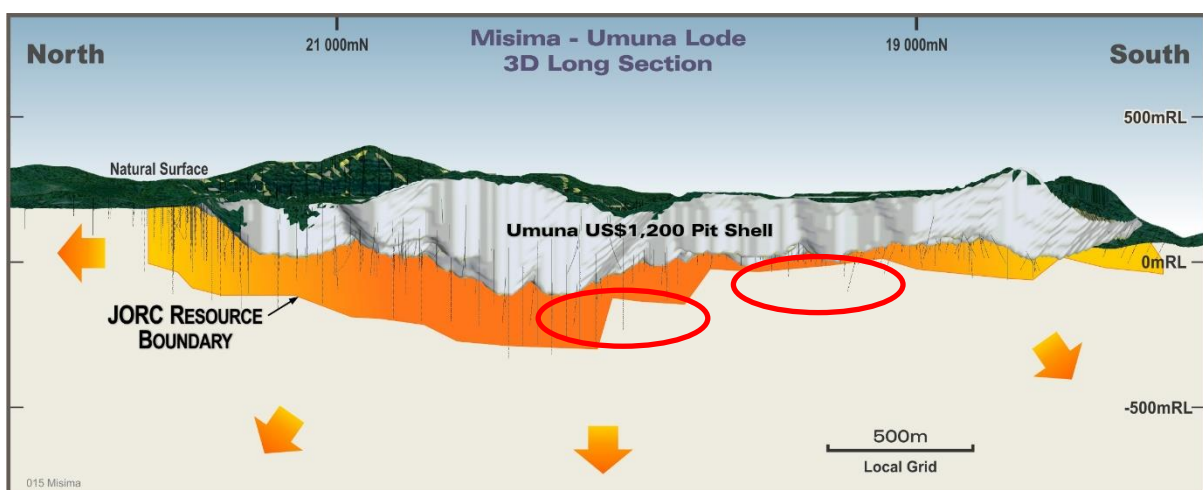

Figure 3: Long section view of target areas at Kulumalia North and Stage 6 South.
2. Other holes are planned to extend the resource in areas where it is currently constrained by the limited depth of previous drilling along the Umuna Shear. Targets to be tested in the near future include North Kulumalia, and Stage 6 South. Both of these target areas combine favourable structural settings with limited prior drilling (Figure 3).